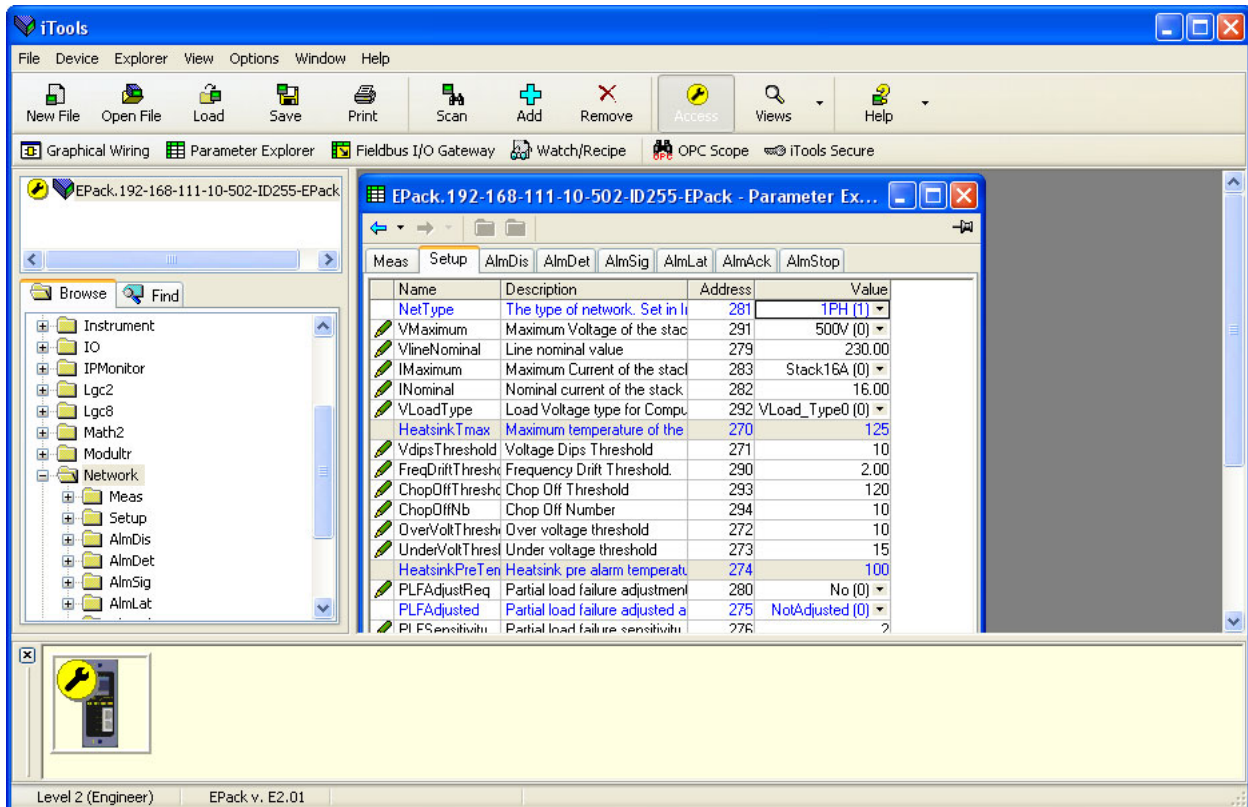
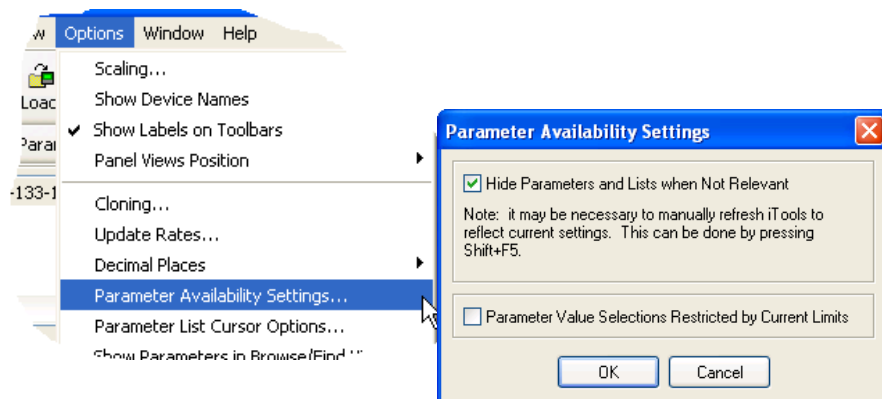

Figure 135 Parameter table example
Figure 138 Show/Hide parameters
In each case the function block parameters appear in the iTools window in tabular form, such as the example in Figure 135.
- Parameters in blue are non-editable (Read only). In the example above all the parameters are read only. Read/write parameters are in black and have a 'pencil' symbol in the 'read/Write access column at the left edge of the table. A number of such items are shown in Figure 135, above.
- Columns. The default explorer window (Figure 135) contains the columns 'Name', 'Description', 'Address' and 'Value'. As can be seen from Figure 138, above, the columns to be displayed can be selected, to a certain extent, using either the 'Explorer' menu or the context menu. 'Limits' have been enabled for the example above.
- Hidden Parameters. By default, iTools hides parameters which are considered irrelevant in the current context. Such hidden parameters can be shown in the table using the 'Parameter availability' settings item of the options menu (Figure 138). Such items are displayed with a shaded background.